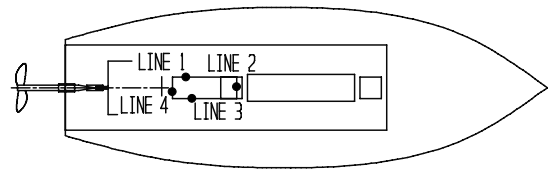

FIG. 15
Step 6. In the Top View, click the line of the first part of the switch, Lines 1, 2, 3 and 4 and press ENTER, **Fig. 15**.